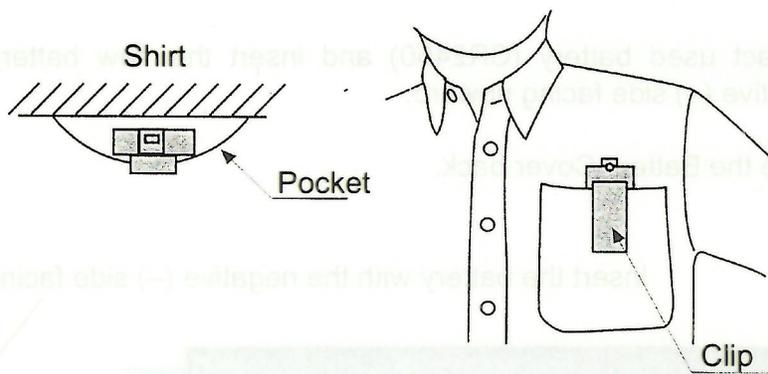

Figure 4-3 Inserting the "DOSE₁ - γ" into the Pocket
- (3) Point the "BODY SIDE" (display side) of the "DOSE₁ - γ" towards your body and insert the "DOSE₁ - γ" into your pocket, securing it with the Clip as shown in Figure 4-3.